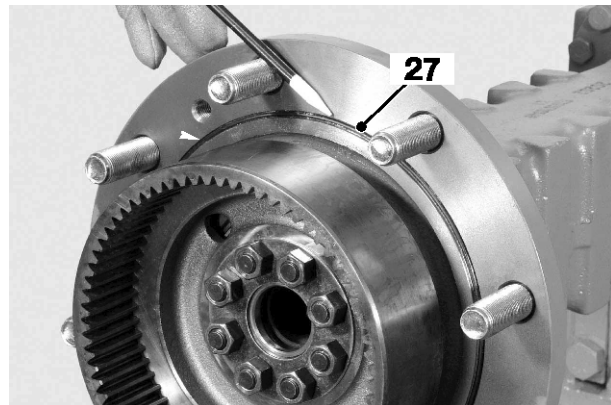

Fig 19.
- 14 Check the condition and position of the O-ring 27, replace if necessary. → Fig 19. (□ F-15)